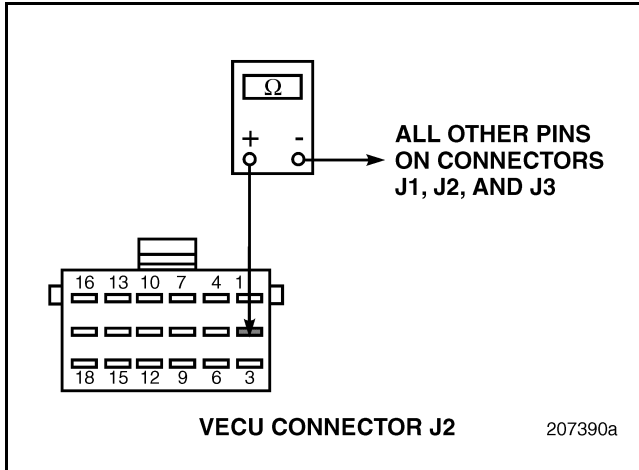

Figure 230
4. Check for continuity between Vehicle Electronic Control Unit (VECU) connector J2 pin 2 and all other pins in connectors J1, J2, and J3 (see Figure 230).